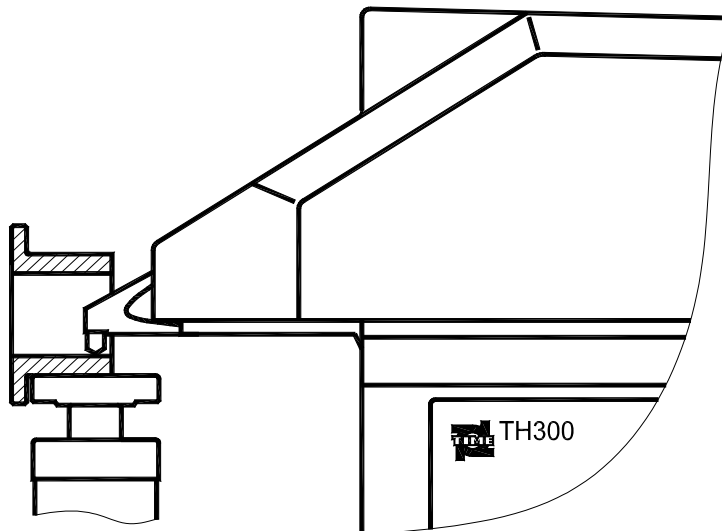

Figure 1.1
- Unique structure. Adopting special indenter structure, See figure 1.1, it can be used not only to conduct the general test which can be made by traditional hardness tester, but also to test surfaces such as the inner surface of annular and pipe parts, which not possible to be tested by common hardness tester.